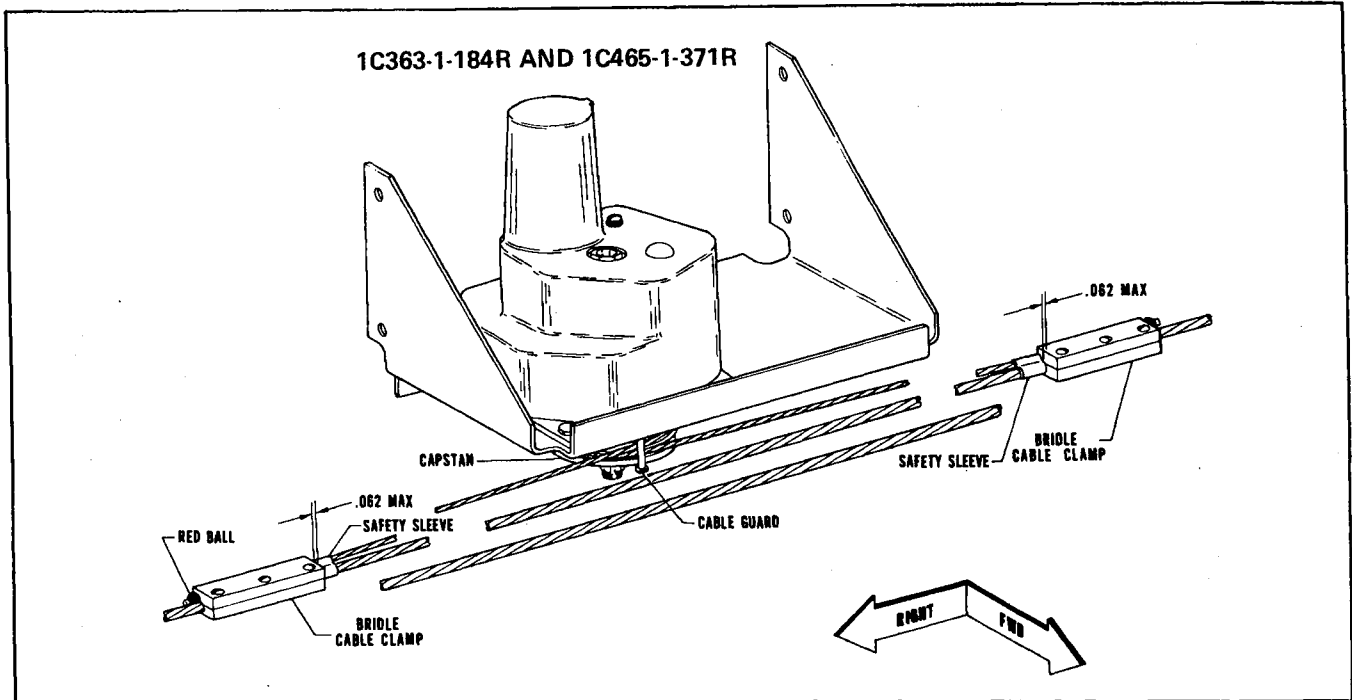

Figure 3-23. Roll Servo Installation, PA-23-250 (Six Place)
3-29. INSTALLATION OF ROLL SERVO. PA-23-250 (six place). (Refer to Figure 3-23.)
- e. REFER TO FIGURE 3-13 AND CHECK THAT CONTROL CABLE TENSION (Z) IS ADJUSTED TO $40 + 8 - 0$ POUNDS PRIOR TO ATTACHING THE BRIDLE CABLE CLAMPS. Ascertain area on cable where clamp attaches is clean, dry and free of all lubricants and anti-corrosive additives. Attach the bridle cable to the aileron balance cable. The bridle cable is drawn to the balance cable and attached with clamps at the previously painted locations on the balance cable. The end of the bridle cable with the red ball extends toward the right side of the airplane. (Refer to Figure 3-23.) (Should the balance cable not be painted, position the control wheel in neutral and align the bridle cable pin, installed in the capstan, with the front guard pin. The red dot on the capstan should align with the rear guard pin.) Adjust the bridle cable clamps so the bridle cable tension (Y) is equal to the control cable tension between the bridle cable clamps (X) as shown in Figure 3-13 without increasing the control cable tension from the bridle cable clamps outward. At no time shall the bridle cable tension be greater than the control cable tension between the clamps. Adjusting the bridle cable tension will lower the control cable tension between the bridle cable clamps. Torque the bridle cable clamp screws to 15 ± 1 inch-pounds.